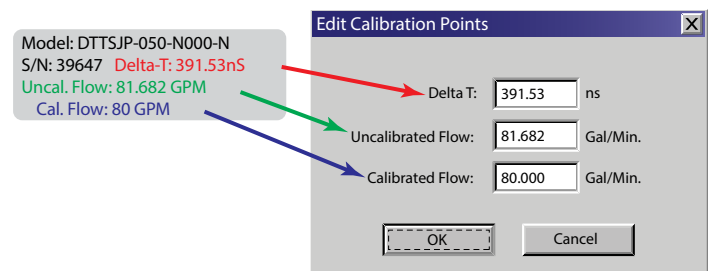

Figure 61: Edit calibration points
7. Enter Delta T, Un-calibrated Flow, and Calibrated Flow values from the DTTS/DTTC calibration label, then click **OK**. See *Figure 61*.